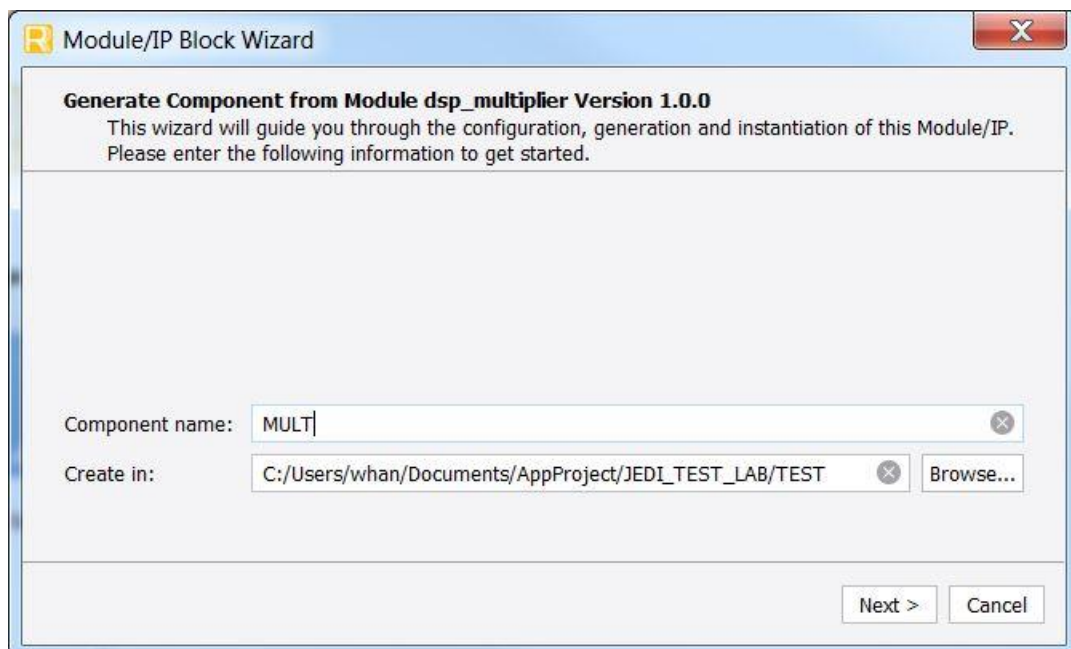

Figure 3.3. Generating the 18×18 Multiplier in Lattice Radiant Software
3. Click **Customize**. Fill out the form. Provide **Component Name** in Figure 3.3.